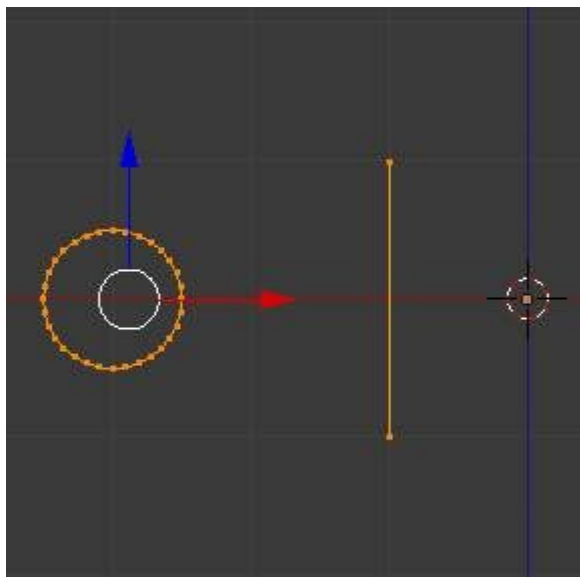

Fig. 9 - Profile and vector created
- De-select and select everything again with the shortcut **A**. (See Fig. 9 - Profile and vector created)